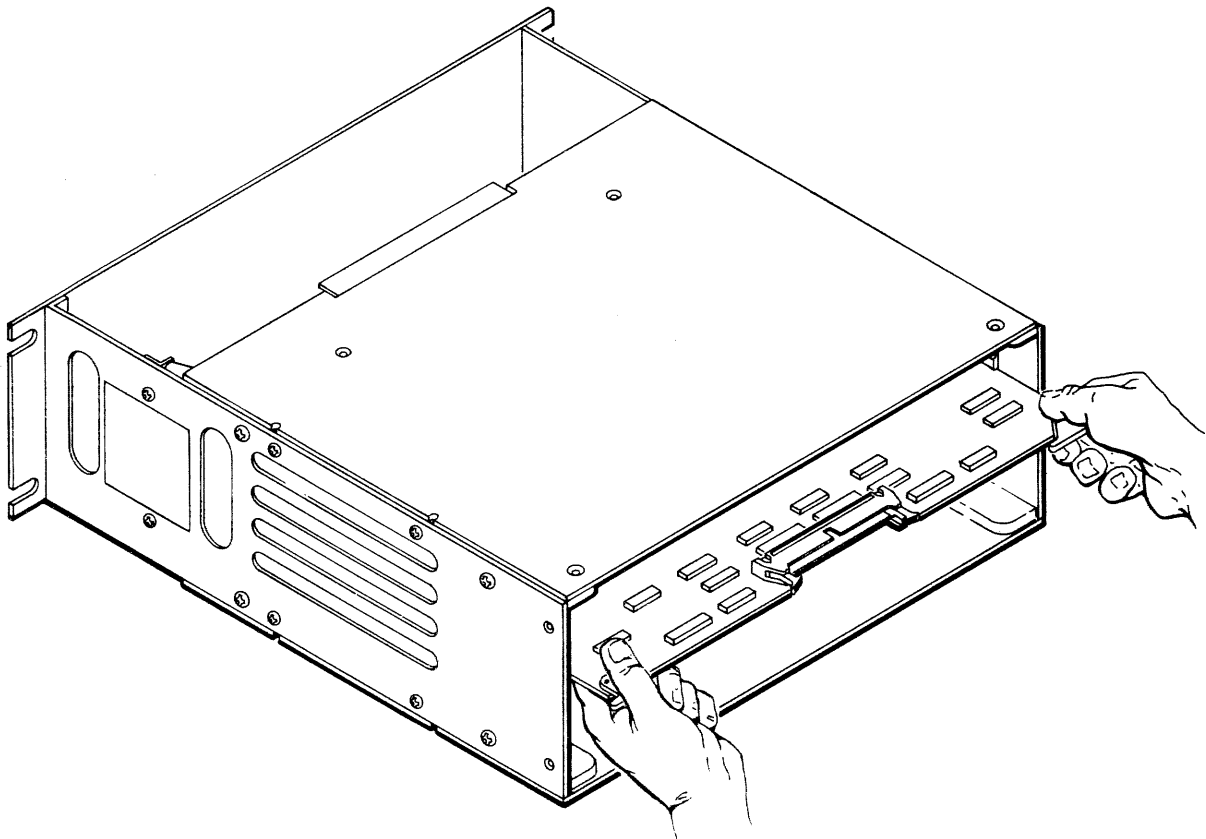

Figure 3-2. Installing MB01 Host Adapter in Multibus Backplane
To install the MB01 Host Adapter in the Multibus host system, see Figure 3-2 and use the general procedure described below. The actual procedure followed is dependent on the configuration of the host system.
4. Plug MB01 Host Adapter into Multibus backplane slot (see Figure 3-2). The component side of the MB01 Host Adapter must face in the same direction as the other modules in the Multibus backplane. Verify the edge connectors on the PCBA are properly positioned in the throat of the backplane connector, then seat the PCBA by pressing on the extractor handles.